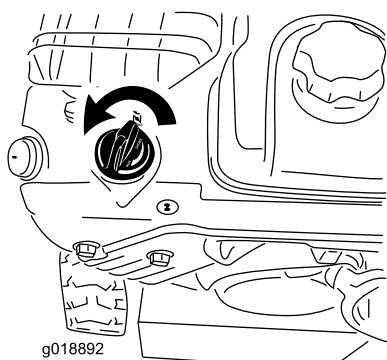

Figure 24
5. Rotate the choke to the Choke position (Figure 24).